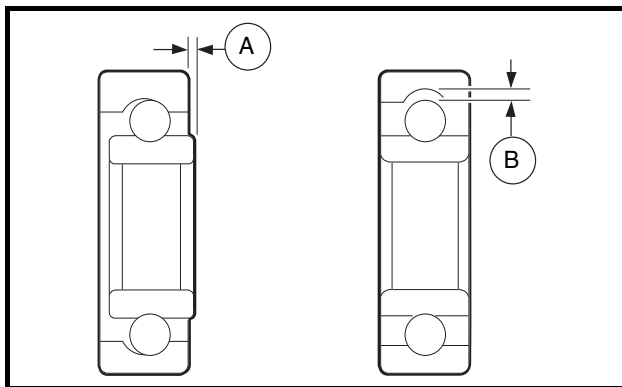

Figure 13-8 Bearing Play Inspection
1. Wipe the carbon dust from the two bearings. Inspect bearings by spinning them by hand and checking for both axial (A) and radial (B) play (**Figure 13-8, Page 13-5**).